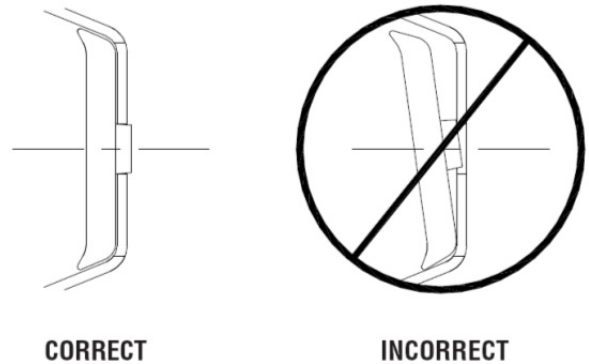

Figure 71
- 5) Be sure all Mushroom Washer Assemblies are properly aligned and positioned (see Figure 71).